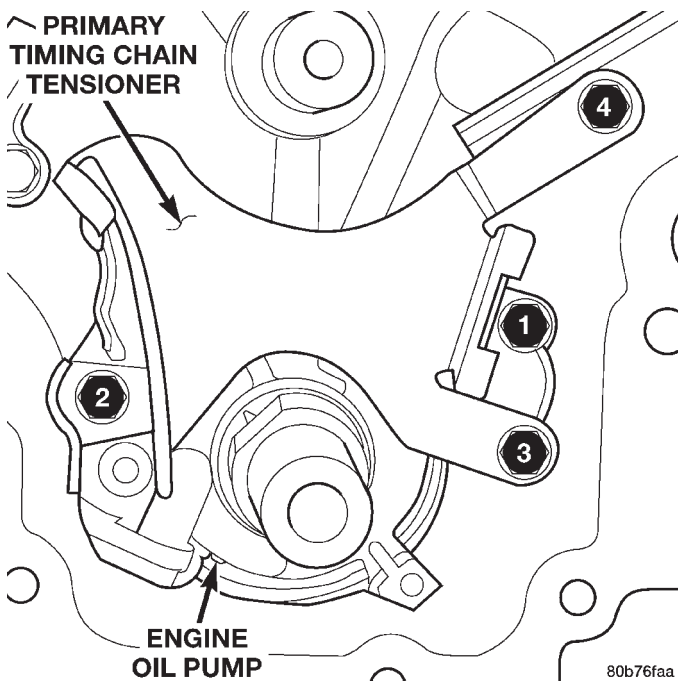

Fig. 105 Oil Pump and Primary Timing Chain Tightening Sequence
- (1) Position the oil pump onto the crankshaft and install two oil pump retaining bolts.
- (2) Position the primary timing chain tensioner and install the two retaining bolts.
- (3) Tighten the oil pump and primary timing chain tensioner retaining bolts to 28 N·m (250 in. lbs.) in the sequence shown (Fig. 105).